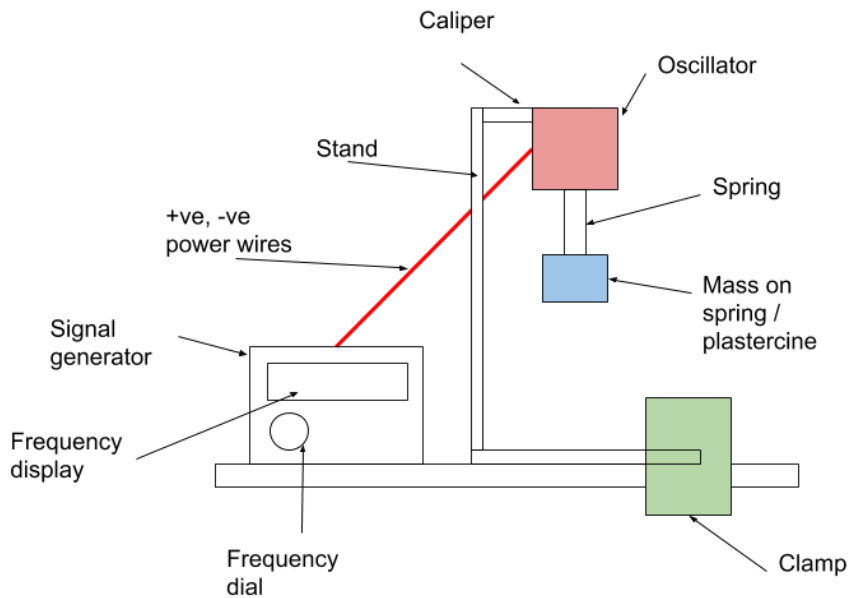

Figure 10: Labelled diagram
- Build set-up, shown in Figure 10.